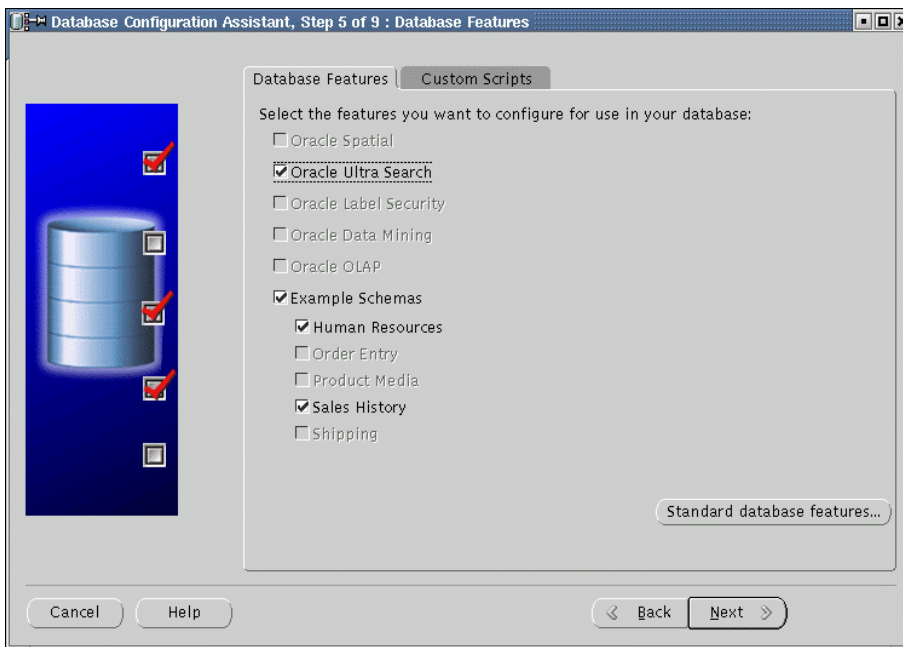

Figure 81. dbca database features
- The Database Features screen (Figure 81) is displayed. In our example, we deselected all the features shown. Click **Standard database features** to deselect standard features.